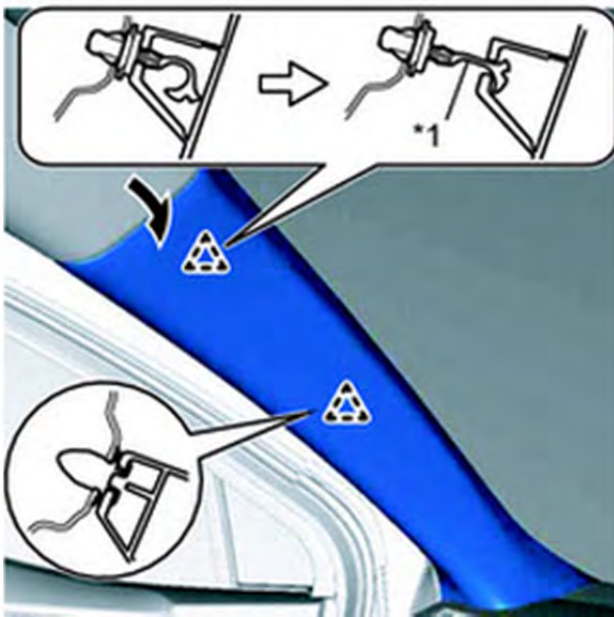

Figure 5
- 5. Pull the upper part of the garnish toward the inside of the cabin and disengage the garnish from the base of the 2 clips. See figure 5.